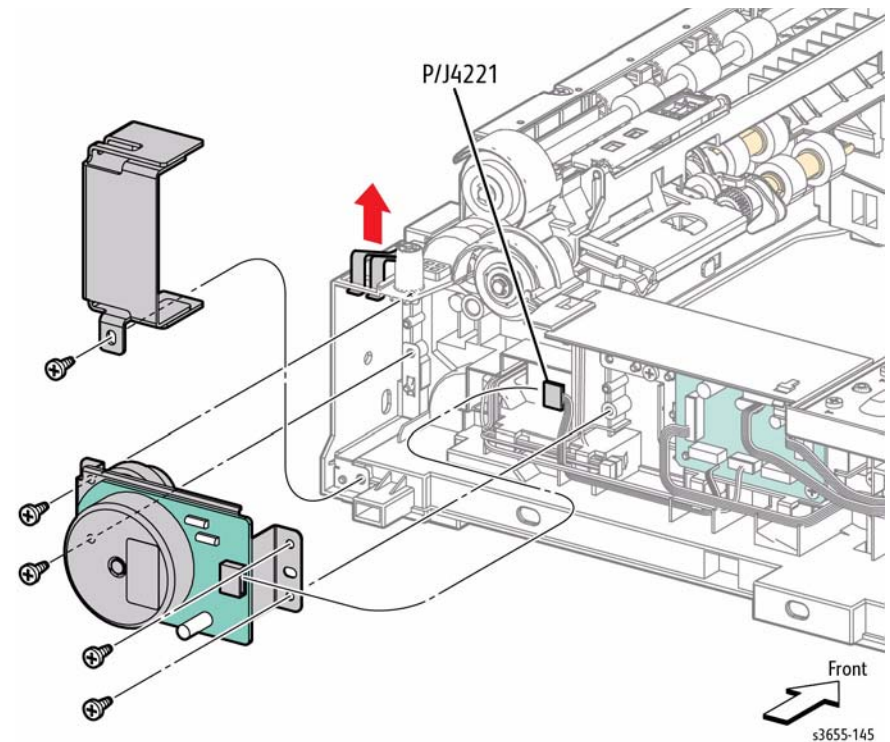

Figure 1 Remove the Feed Motor
4. Refer to Figure 1 to locate and remove 2 screws (silver, tapping, 8mm, and silver, metal, 8mm) and lift the ground straps to remove the motor cover.